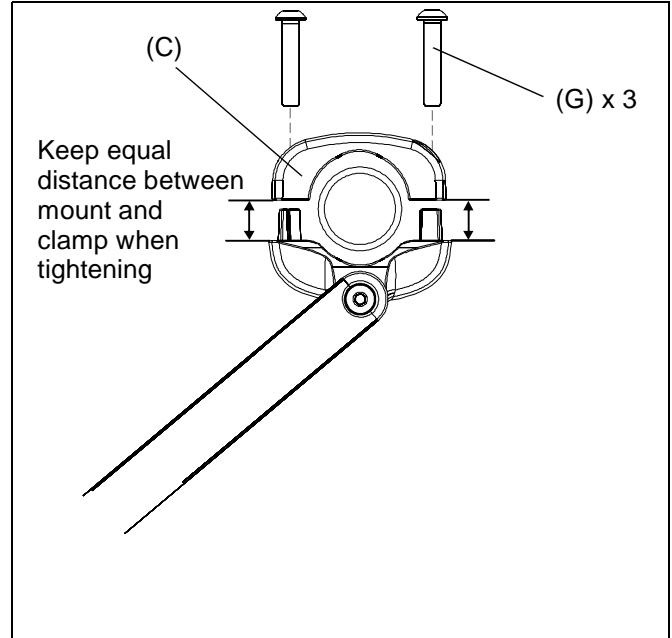

Figure 2
NOTE: Equally tighten screws (G) against mount (A) and the pole clamp (C). (See Figure 2)